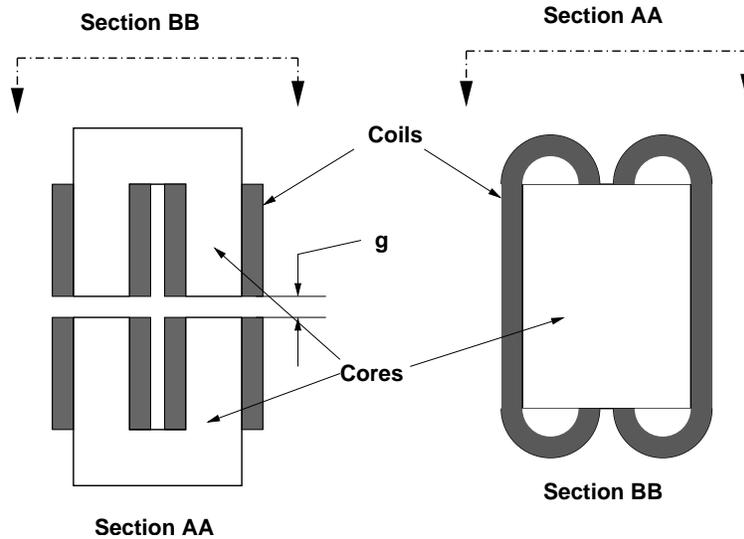

Figure 2: Inductor made with two 'C' cores and four coils of wire
- (b) Heating Limit: when the current density in the coils reaches $3 \times 10^6 \text{ A/m}^2$ Assume this to be the 'superficial' current density over the area of the coils. And assume that the coils occupy the whole space inside the core 'window'. (Figure 2 shows the coils occupying less than the whole window).